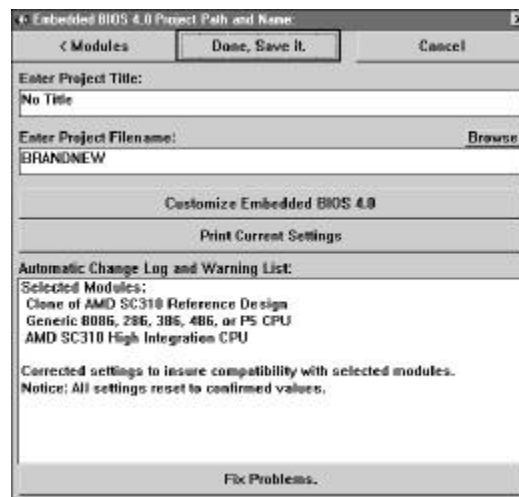

Figure 6.4. Main project control screen.
4. Specify a title and filename for the BIOS adaptation. The title of the BIOS will appear at the top of the screen when the completed BIOS boots on your target hardware. The file name is used to determine the name of the project directory where the .INC file and the final .ABS file will go as well as the name of those files. To preserve compatibility with DOS and with GSMMAKE, BIOSStart limits the project file name to 8 characters. The default settings as well as the screen that you set them on is displayed in Figure 6.4.
Clicking on the **[Previous Menu]** button will take you back to the last menu. If you move all of the top menus aside, until you see the bottom menu, you could click on **[Previous Menu]** and BIOSStart would take you back to a screen similar to the one in Figure 6.4.